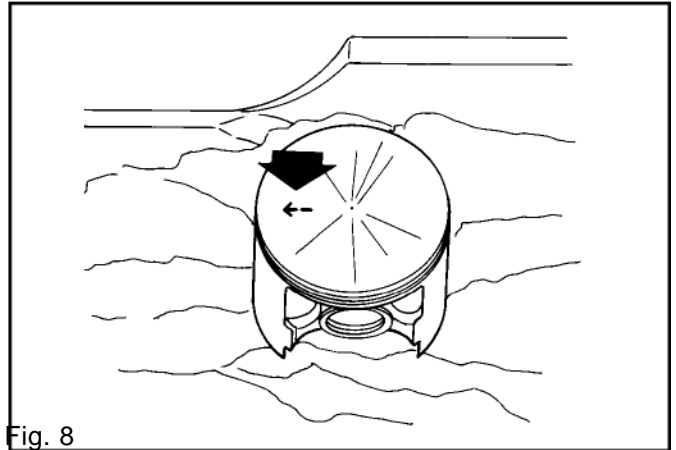

Fig. 8
2. Locate the piston with the arrow pointing towards the exhaust port. See fig. 8. Press in the gudgeon pin and fit the circlip.
3. The little end bearing surface is not scored or discoloured. See fig. 8.